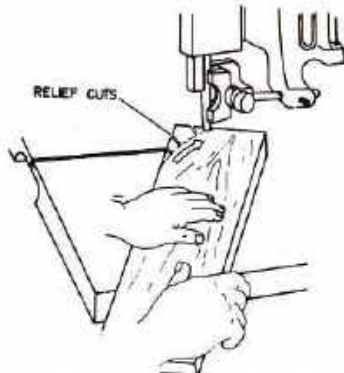

Fig.644. MAKE RELIEF CUTS BEFORE CUTTING THE MARKED CURVE
6. The band saw is excellent for removing corners of turning squares Fig.644.